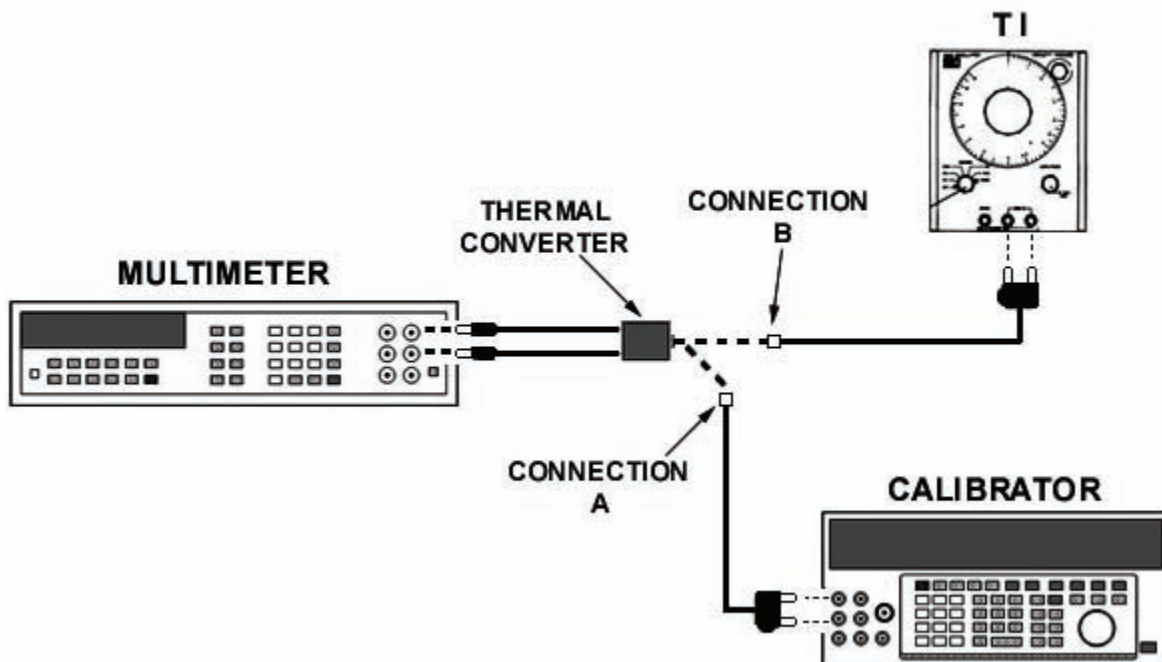

Figure 3. Frequency response - equipment setup.
- (1) Connect equipment as shown in figure 3, CONNECTION A.
- (2) Adjust calibrator to 1.0 V dc and record multimeter indication.
- (3) Adjust calibrator to 0.99 V dc and record multimeter indication. Adjust calibrator to 1.05 V dc and record multimeter indication.
- (4) Repeat technique of (3) above for 0.995 and 1.005 V dc respectively.
- (5) Repeat technique of (3) above for 0.99 and 1.01 V dc respectively.
- (6) Connect equipment as shown in figure 3, CONNECTION B.
- (7) Set **RANGE** switch to **X100** and frequency dial to **10**.
- (8) Adjust **AMPLITUDE** control until multimeter indication is the same as recorded in (2) above.
- (9) Set **RANGE** switch and frequency dial as listed in table 4. Multimeter indications will be within appropriate values recorded in (3) through (5) above as listed in table 4.